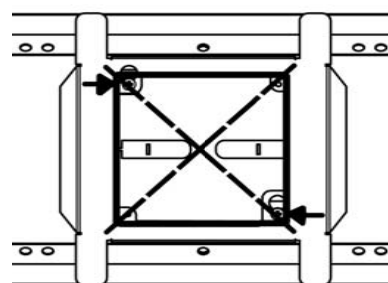
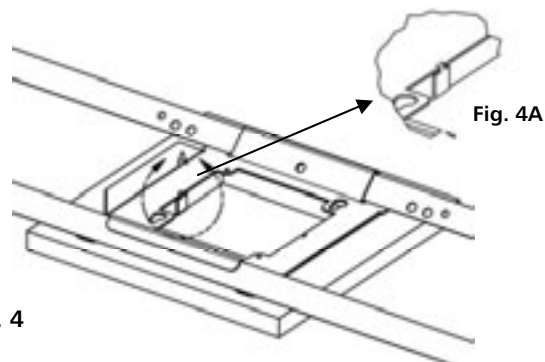

Fig. 3
Fig. 4
- Fig. 3, Using the inside of the baseplate as a guide, mark and cut a 3-3/4" square hole in the tile; secure baseplate and rails to tile by bending tabs into cutout as shown. Fig. 4, 5